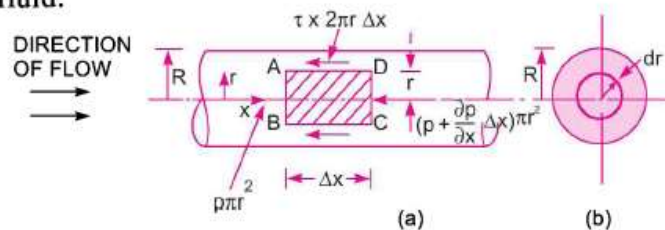

Fig. 9.1 Viscous flow through a pipe.
Consider a horizontal pipe of radius R . The viscous fluid is flowing from left to right in the pipe as shown in Fig. 9.1 (a). Consider a fluid element of radius r , sliding in a cylindrical fluid element of radius $(r + dr)$. Let the length of fluid element be Δx . If 'p' is the intensity of pressure on the face AB, then the intensity of pressure on face CD will be $\left(p + \frac{\partial p}{\partial x} \Delta x\right)$. Then the forces acting on the fluid element are :
The average velocity, \bar{u} , is obtained by dividing the discharge of the fluid across the section by the area of the pipe (πR^2). The discharge (Q) across the section is obtained by considering the flow through a circular ring element of radius r and thickness dr as shown in Fig. 9.1 (b). The fluid flowing per second through this elementary ring